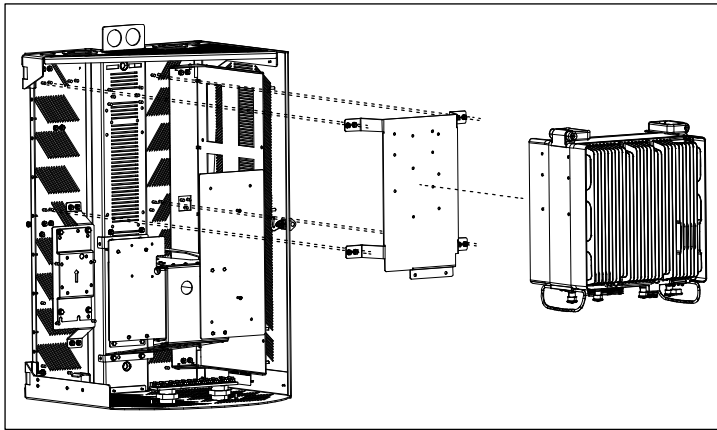

Figure 3 Install RF4461 Radio
2. Mount the radio/bracket assembly to the SHRD60 rear panel using eight Keps nuts (Figure 3).